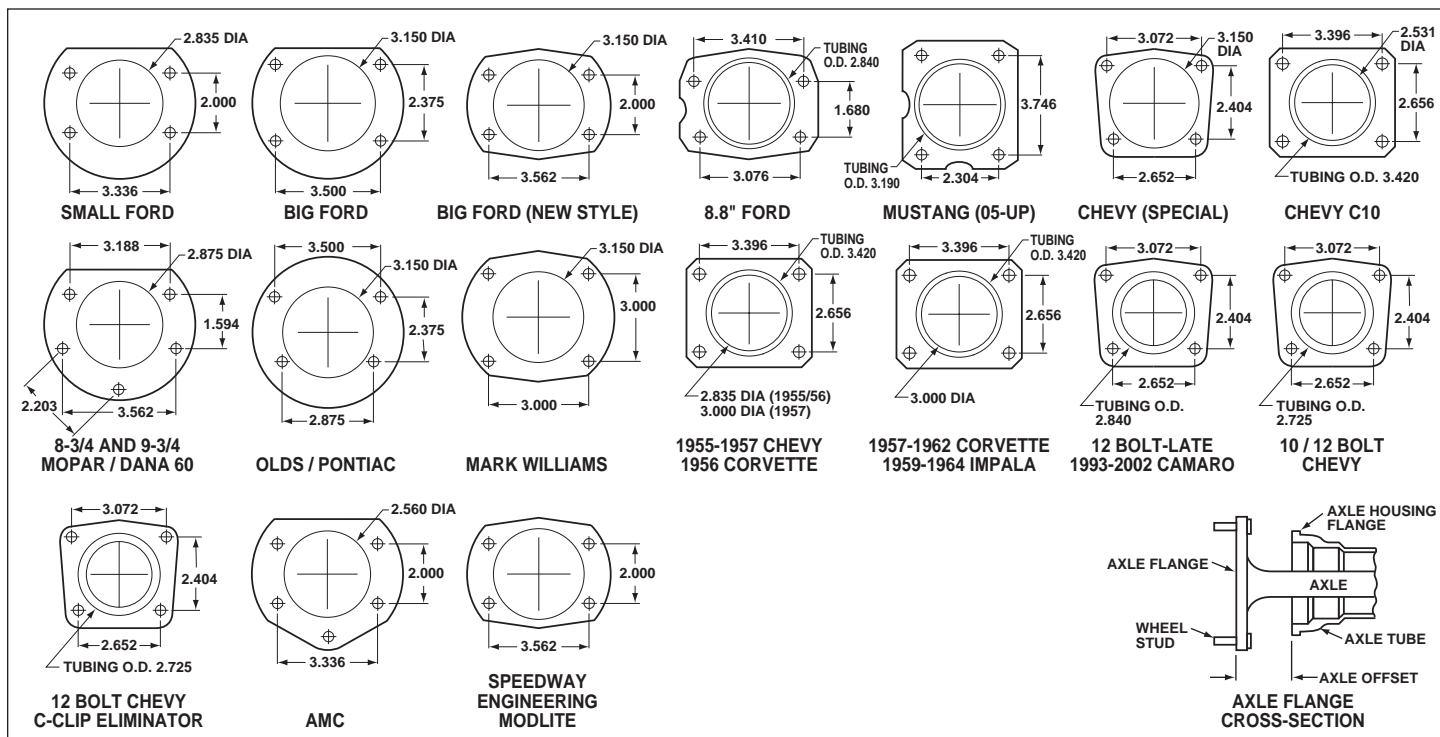

Figure 7. Rear Housing Flange Chart and Axle Flange / Offset Cross-Section
- Make sure this is the correct kit to fit the axle housing flange, not necessarily the rear end make. Many times after market manufacturers put a different make of axle housing flange on the stock rear end housing (see Figure 7). Example; Big Ford rear ends with Olds-Pontiac flanges, therefore, an Olds-Pontiac rear disc brake kit would be the correct kit to order. Also, shock clearance may be a problem. They may have to be modified and/or relocated to clear the Wilwood kit after final assembly.
- Dimension from wheel side of axle flange to wheel side of axle housing flange (see Figure 7, lower right hand corner). This dimension is critical to ensure proper alignment of the rotor to the caliper, and should match offset given in the kit description.